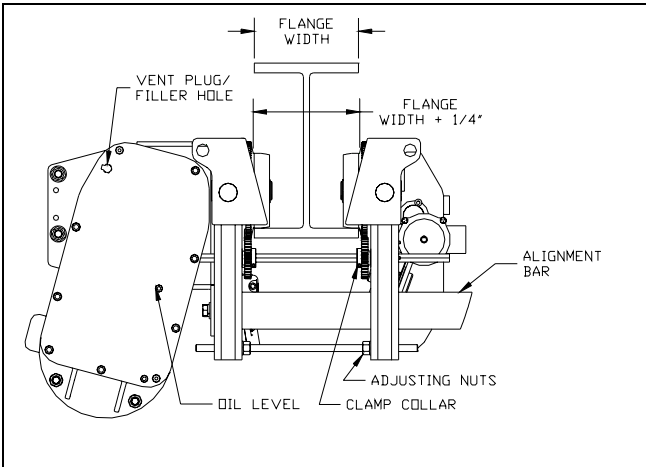

FIGURE 2-1. Trolley Wheel Spacing.
- a) **OPEN-END BEAM:** If the trolley can be installed directly from the end of the supporting beam, adjust the spacing between the trolley wheel flanges to be 3/16"-1/4" greater than the exact width of the beam flange (See Figure 2-1). Before adjusting the width of the trolley frame be sure to loosen the clamp collar nearest the traverse drive on the hex traverse drive shaft. Also, the electrical conduit/cable must not be constrained when attempting to adjust the trolley sides in or out.
- b) **CLOSED-END BEAM:** For trolleys which are to be mounted along the span of a beam not having open ends, the trolley must be adjusted in the same manner as described above to a width that allows clearance between the axles and the beam flange. Using proper lifting equipment, the trolley and hoist must then be lifted to the beam where it is to be installed. Once in position, adjust the spacing between the trolley wheel flanges to be 3/16"-1/4" greater than the exact width of the beam flange (See Figure 2-1). After tightening all adjusting bolts, the clamp collar, and all electrical conduit/cable clamps, carefully set the trolley on the beam. Lubricate the wheel gear and pinion (**WG**, Section IV, Paragraph 4-3).
- a) Check Oil Level. (Figure 2-1) The gearcase has been filled with oil to the proper level. However this should be re-checked before operating the hoist.
Check oil level by removing the plug indicated in Figure 2-1. When properly filled, oil should be level with the bottom of the tapped hole. Fill to this level with oil as specified in Paragraph 4-2.e.